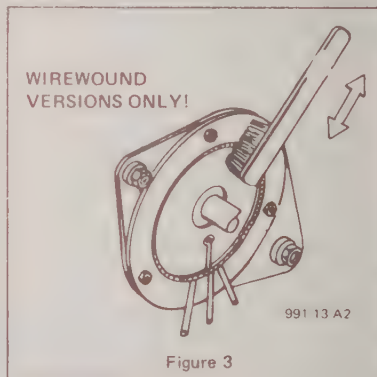

Figure 3
1. Clean the wirewound slidewire with a clean bristled (nylon) brush. Do NOT use a metal or fibre glass brush. See Figure 3 .